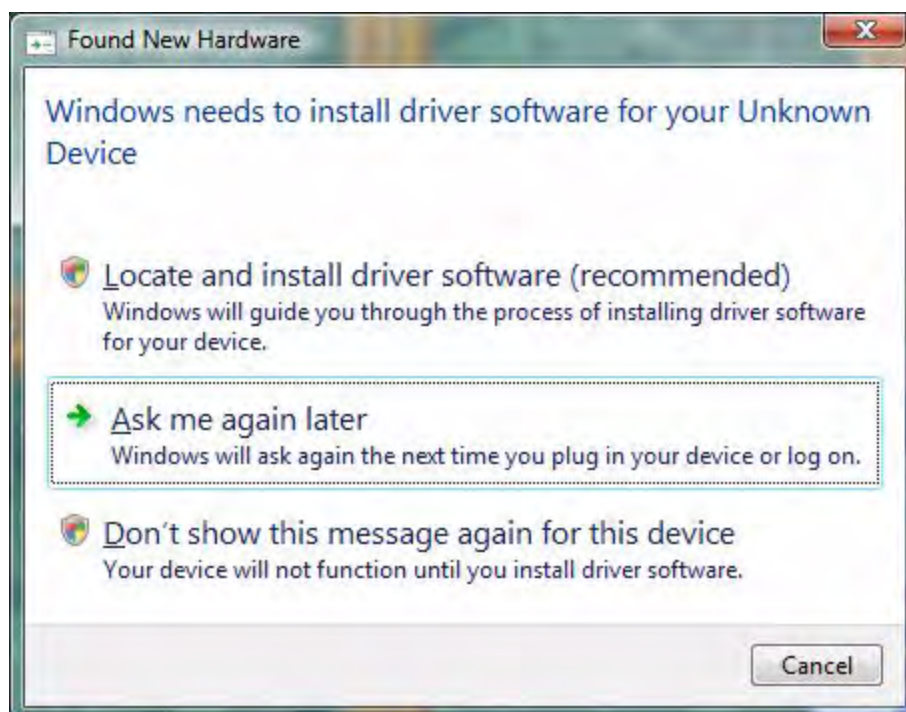

Figure 65. Found New Hardware Dialog, Windows Vista
2. After the PC detects the new hardware, it will display the Found New Hardware Wizard dialog box, shown in Figure 65. Click **Locate and install driver software (recommended)**.